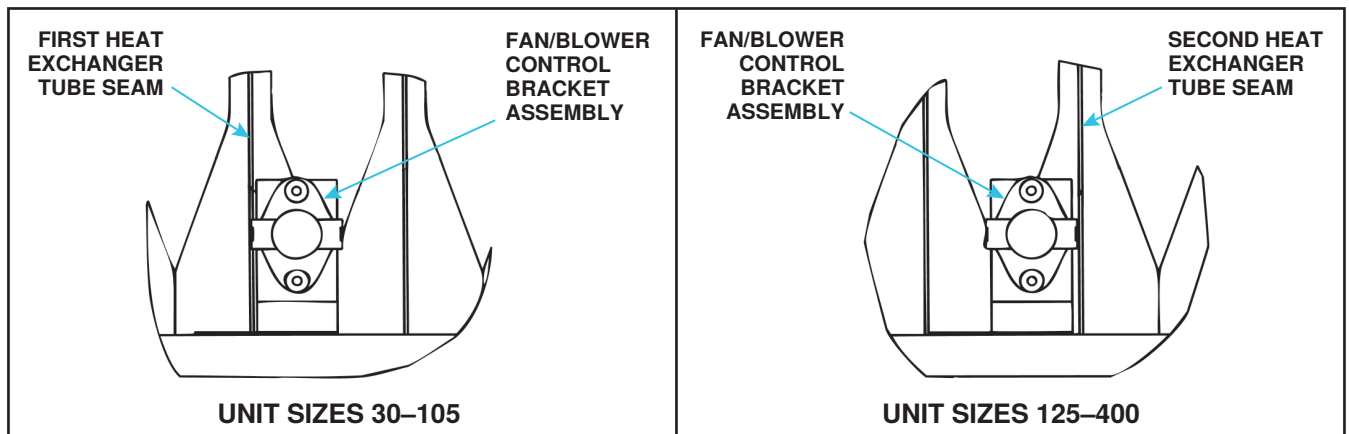

Figure 2. Replacement Control Locations
4. Position replacement fan/blower control (see Figure 2):